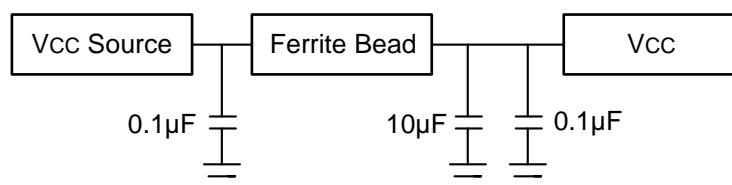

Figure 11. Filtering Noise with a Ferrite Bead
- Isolate the power planes of the clock driver from the power plane of the board by a ferrite bead. The ferrite blocks high frequency noise from reaching the main power supply. Use a non-resonant, surface-mount ferrite bead large enough to handle the current in series with the power supply and place a 10 μ F to 100 μ F bypass tantalum capacitor next to the ferrite bead (see Figure 11).